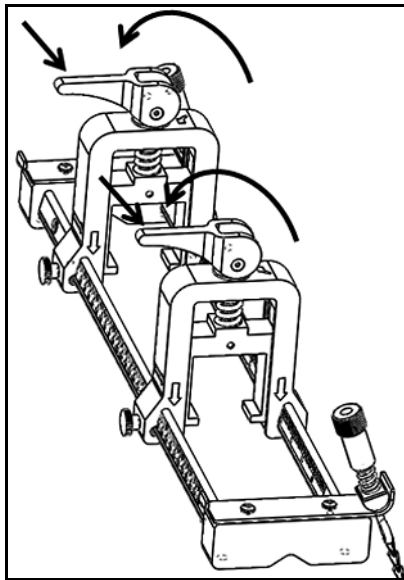

Figure 22: Released Cams
7. Release the cams on both transducer clamps so that the transducers are pushed towards the pipe to ensure that the couplant completely fills the gaps between the transducer faces and the pipe surface (see *Figure 22* below).